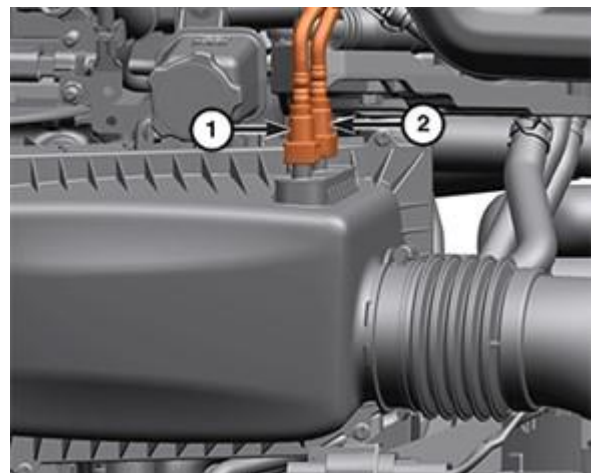

Figure 17 – Air Cleaner Cover
7. Disconnect the vacuum boost hose quick coupling (1) from the air cleaner body cover (Figure 17).
8. Disconnect the fuel vapor purge hose quick coupling (2) from the air cleaner body cover (Figure 17).